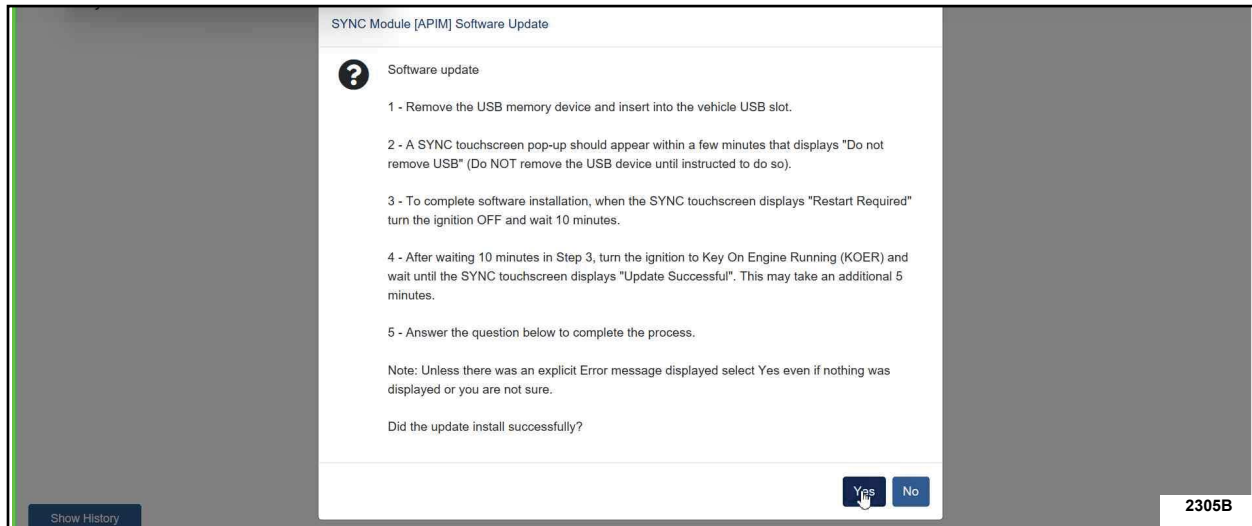

FIGURE 4
22. Return the USB thumb drive to the FDRS and follow the on-screen prompts carefully until the following screen is reached. See Figure 4.